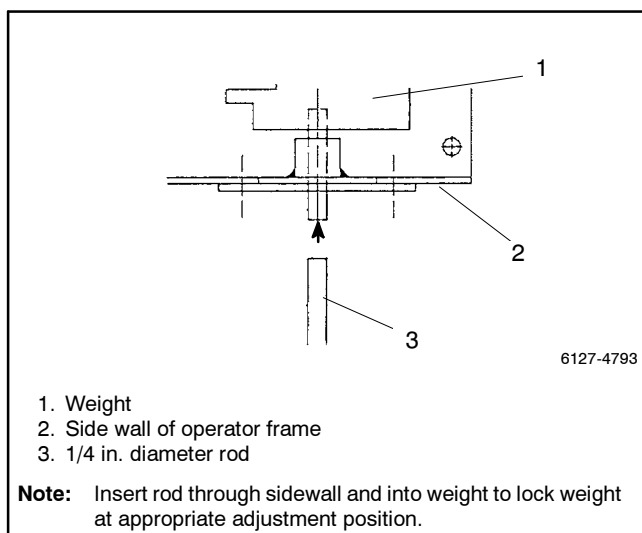

Figure 9-20 Rod in Weight
- b. Insert a 1/4 in. diameter rod through the hole in the sidewall and into the first hole in the side of the weight. See Figure 9-20.
- Insert a 1/4 in. diameter rod through the hole in the sidewall and into the third hole in the side of the weight. See Figure 9-20.